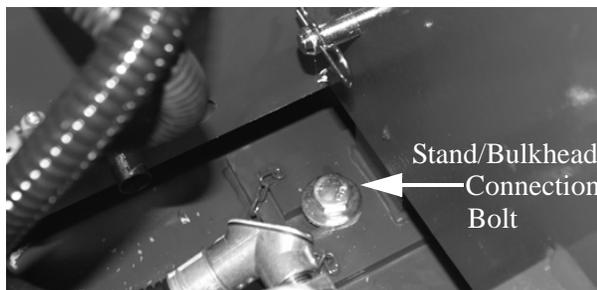

Figure 2-6. Bolt Connecting Stand to Bulkhead
2. Remove the bolt which connects the stand to bulkhead base (see Figure 2-6). Re-install this bolt in the bulkhead base after the stand is raised in Step 4.
4. Install bolt connecting stand to bulkhead base (see Figure 2-6 on page 5).